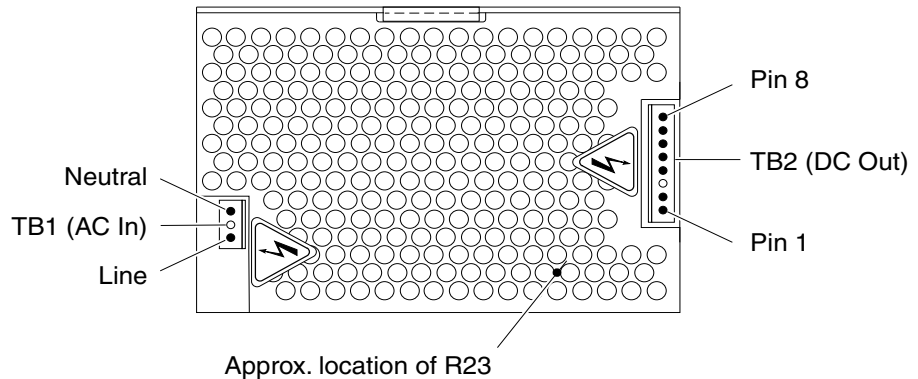

Figure 2-3 A4 DC Power Supply Test-Point Locations
- 4 Connect the negative lead of a voltmeter to the chassis and measure each of the voltages listed in Table 2-2 on Power Supply connectors TB1 and TB2 (see Figure 2-3).